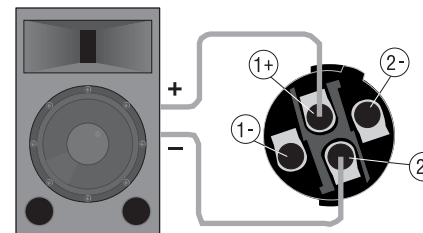

Figure 2.14 Wiring a Speaker in Bridge-Mono Mode to the Top Speakon® Connector
- 1) Wire the speaker across the red binding post of each channel (Figure 2.14). Do not use the black binding posts when operating in Bridge-Mono mode.
- 2) Wire the speaker only to the top Speakon® connector as shown in Table 3 and Figure 2.14.